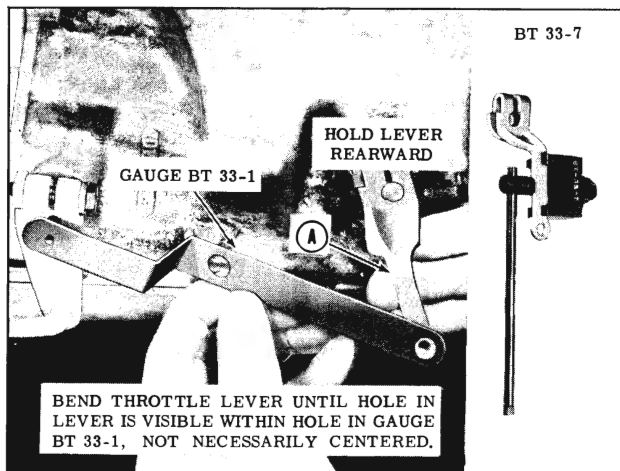

Fig. 3-127 Checking T.V. Lever Adjustment
- a. Raise car and remove clip and lower T.V. rod from T.V. lever "A" at side of transmission. (Fig. 3-127)
- b. Place short end of T.V. lever Gauge BT-33-1 into manual lever shaft. While holding T.V. lever at the end of its rearward travel, the T.V. lever hole should be visible within the hole in the gauge. (Fig. 3-127)
- With T.V. bellcrank and transmission lower T.V. rod "B" held against their rearward stops, adjust lower T.V. rod clevis so that the pin will enter freely into holes in clevis and T.V. bellcrank. (Fig. 3-127)